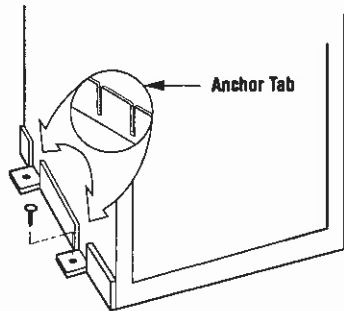

Figure 13
**Step 4.** Firebox may be anchored to floor. Bend down four (4) anchor tabs located at the base of the firebox and secure to the floor by nailing with 8d nails (Figure 13).